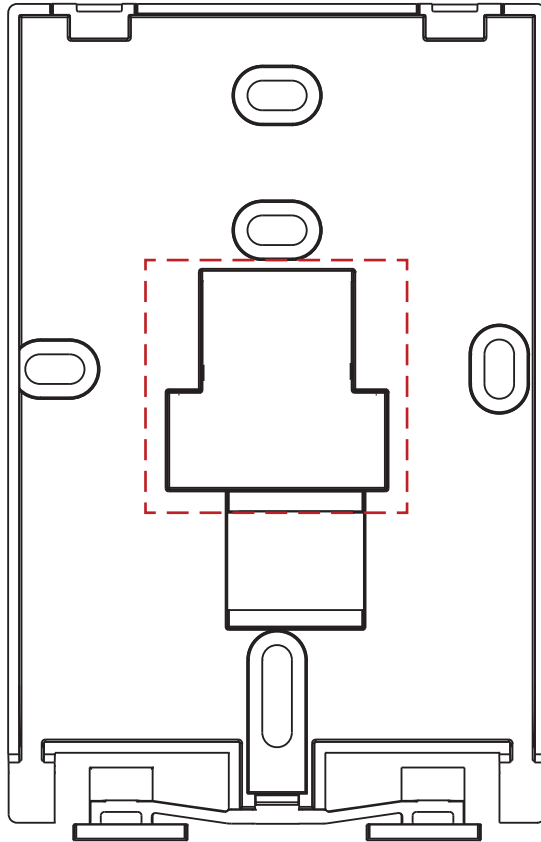

Figure 7 Microset 4 mounting template.
See the mounting template in Figure 7.
1. Position and level the wallplate (for appearance only) or use the template in Figure 7.
2. Use a pencil to mark the mounting holes and the wiring opening (dashed line in Figure 7).